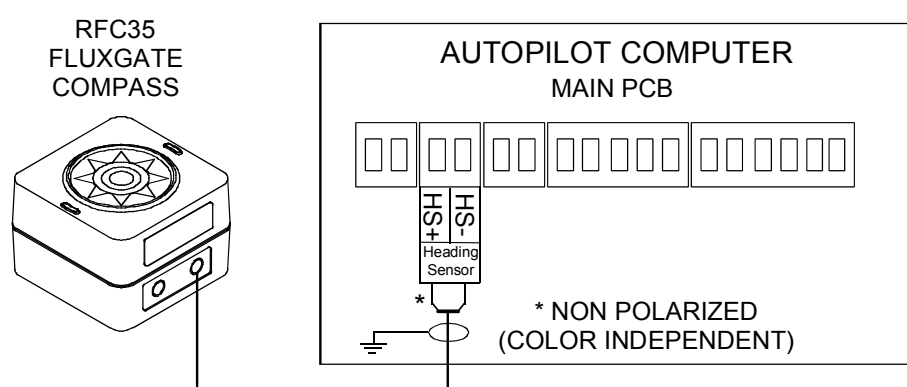

Figure 3-14 RFC35 connection
- Connect the RFC35 to the autopilot computer as per Figure 3-14